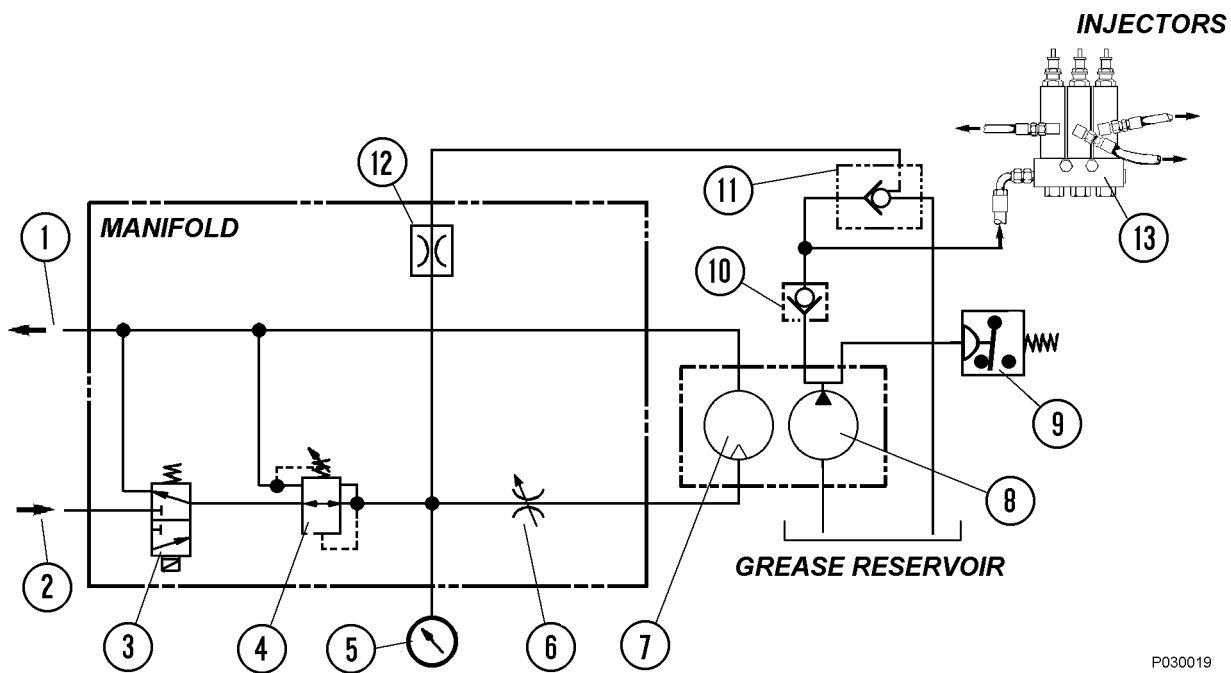

FIGURE 4-3. HYDRAULIC SCHEMATIC
2. The timer provides 24 VDC through the normally closed relay, RB6-K1 (12) used to energize the pump solenoid valve (5), allowing hydraulic oil provided by the truck steering pump circuit to flow to the pump motor and initiate a pumping cycle.
3. The hydraulic oil pressure from the steering circuit is reduced to 325 to 350 psi (2 240 to 2 413 kPa) by the pressure reducing valve (4, Figure 4-3) before entering the motor. In addition, the amount of oil supplied to the pump is limited by the flow control valve (6). Pump pressure can be read using the gauge (5) mounted on the manifold.
4. With oil flowing into the hydraulic motor, the grease pump will operate, pumping grease from the reservoir to the injectors (13), through a check valve (10) and to the vent valve (11).
7. After the pump solenoid valve is de-energized, hydraulic pressure in the manifold drops and the vent valve (11, Figure 4-3) will open, releasing grease pressure in the lines to the injector banks. When this occurs, the injectors are then able to recharge for the next lubrication cycle.